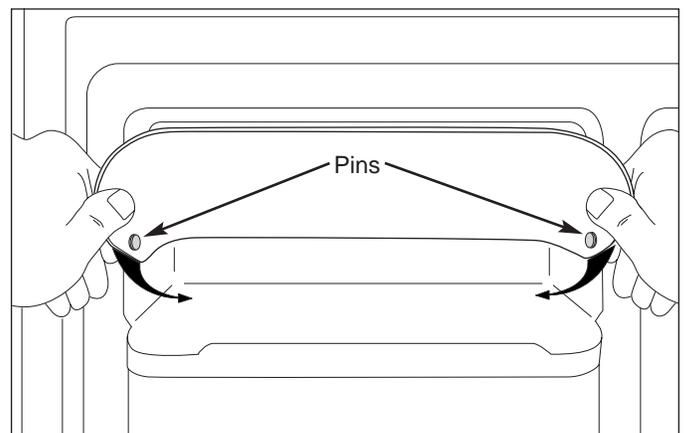

Figure 5-9. Door Shelf Guard Removal
2. Grab the dairy door on each side and flex the outer edge inwards until the door is free of the pins in the door liner, then pull from door. (See Figure 5-9)